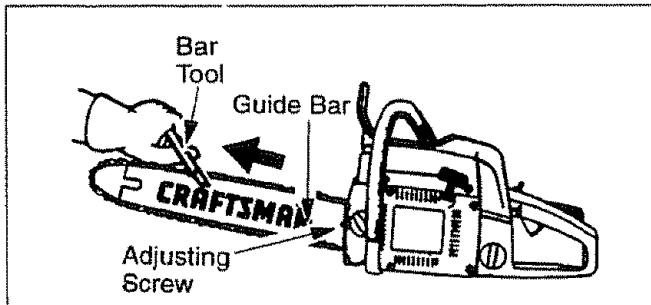

Figure 53
- Use the screwdriver end of the bar tool to move chain around the guide bar (Figure 53).